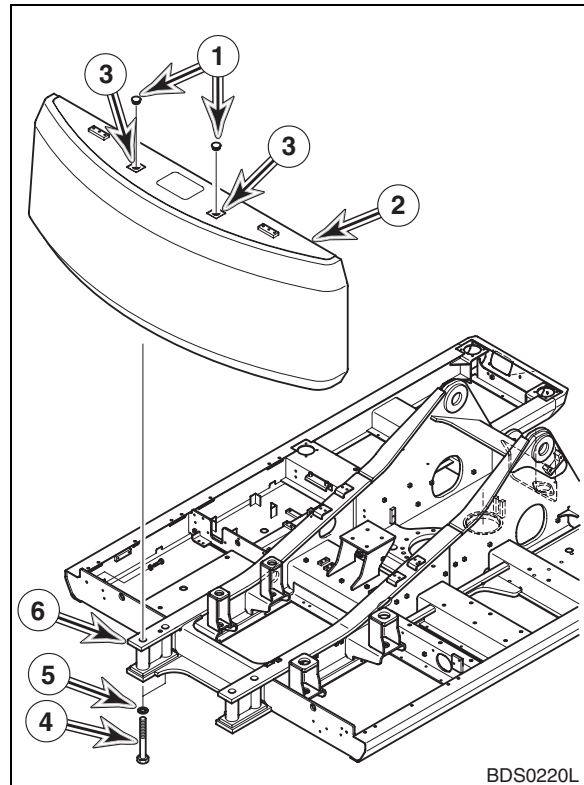

Figure 5
2. Using suitable lifting device capable of handling a heavy load, raise counterweight (2, Figure 5) into position just above support frame (6) leaving counterweight suspended. Verify that counterweight is level and even.
NOTE: Leave counterweight (2, Figure 5) suspended 3 mm (0.125") above support frame (6) until all four mounting bolts (4) are started in counterweight mounting holes.
3. Slide washers/spacers (5, Figure 5) onto bolts (4). Apply Loctite #242 to mounting bolt threads.
4. Install four bolts (4, Figure 5) with washers/spacers (5) into counterweight until washers/spacers contact support frame. Fully lower counterweight onto support frame and finish tightening bolts.
NOTE: Torque bolts (4, Figure 5) to values shown in following table.
5. Remove lifting device and lifting eyes from counterweight lifting holes (3, Figure 5).
6. Install two caps (1, Figure 5) in lifting holes (3).